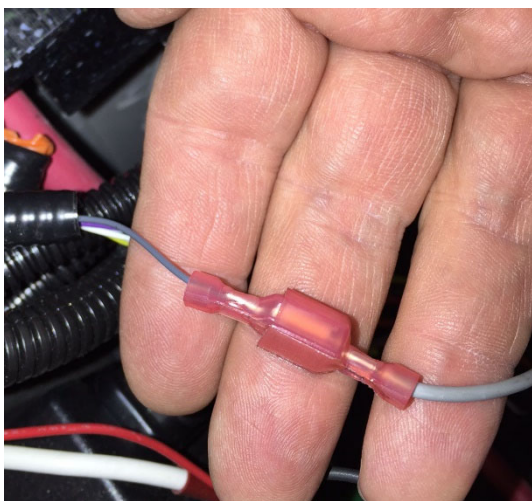

Fig. 25
14. Plug the gray wire with newly the installed male quick disconnect into the female quick disconnect with a gray wire on the HPEVS supplied wiring harness from the lithium battery pack. (Fig. 25 and Fig. 26)